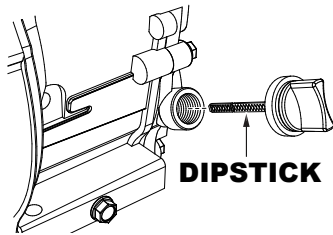

Figure 4. Engine Oil Dipstick Removal
2. Remove the dipstick from the engine oil filler hole (Figure 4) and wipe clean.